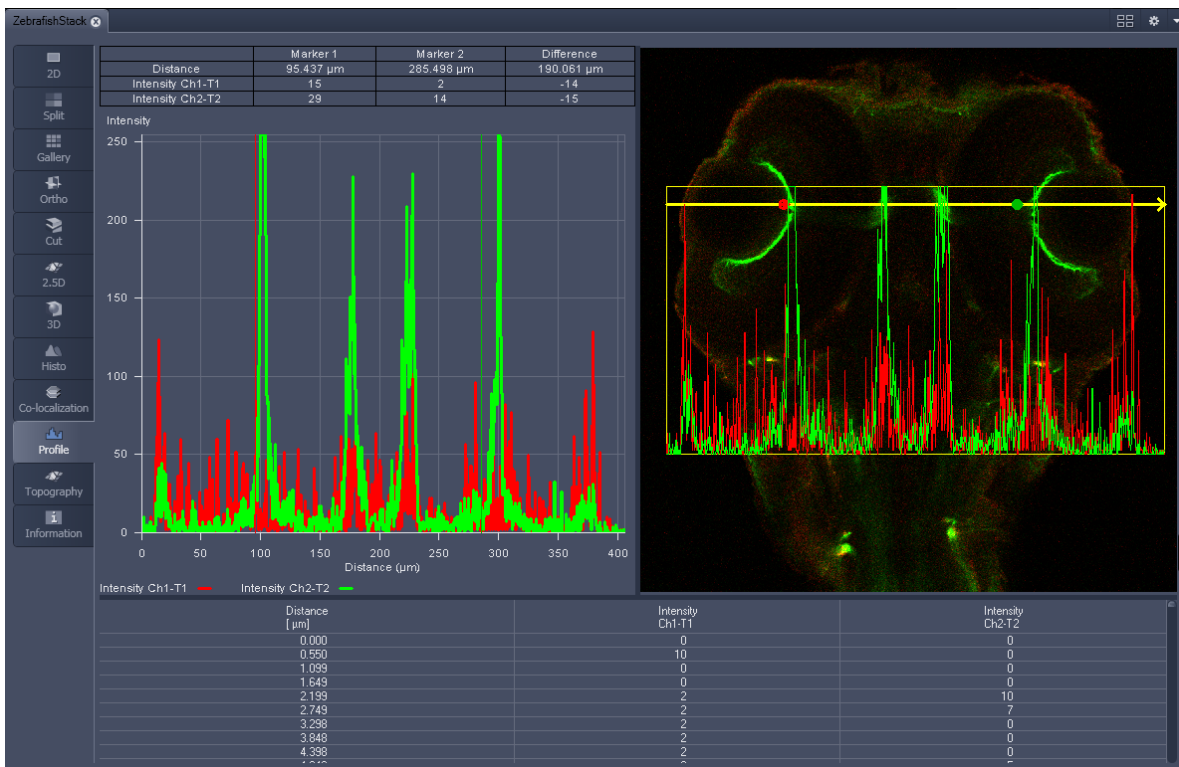

Fig. 542 Image Display - Profile View, Profile displayed in Image
- Tick the **Profile in Image Display** block to see an intensity graph superimposed on the image (see Fig. 542).